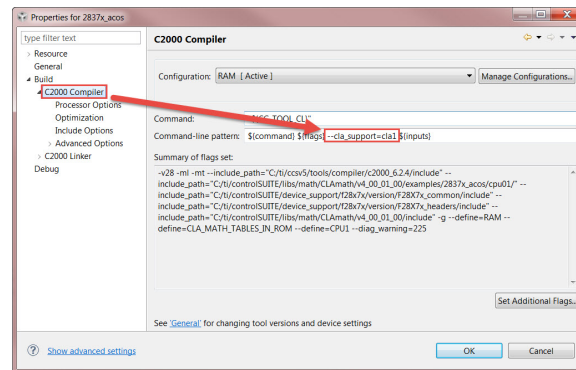

Figure 4.8: Turning on CLA support
- For devices that have a Type 0 CLA, enable the **–cla_support** option in **Processor Options** to **cla0** as shown in Fig. 4.8
- For devices that have a Type 1 CLA, enable the **–cla_support** option at the compiler command-line pattern to **cla1** as shown in Fig. 4.8